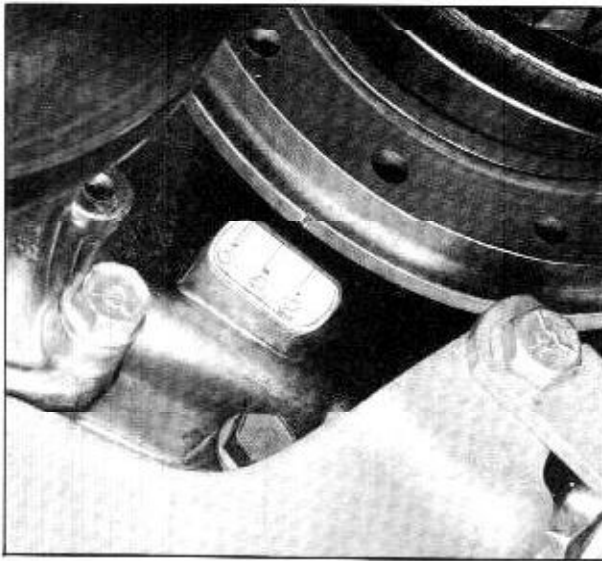

Fig. 9-3 Ignition-Timing
1. The timing marks are located on the engine front cover, 0°, 5° and 10°. (Fig. 9-3)